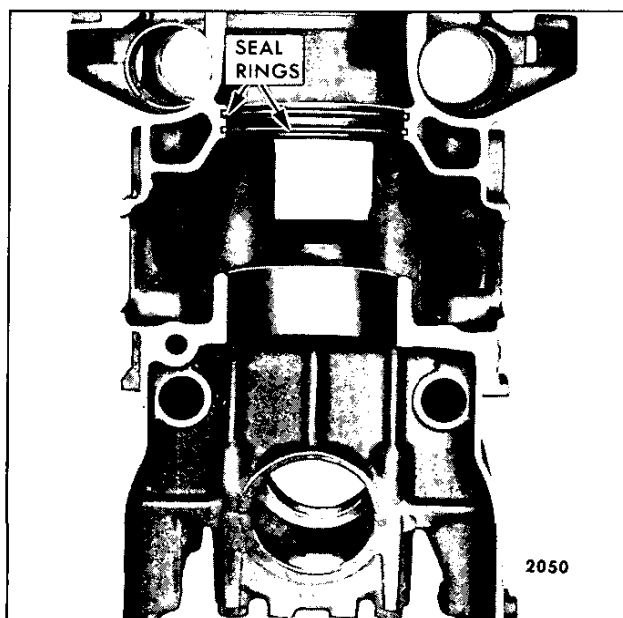

Fig. 12 - Location of Block Bore Seal Ring Groove
- a. Make sure the seal ring grooves (Fig. 12) are thoroughly clean. Then inspect the grooves and lands for evidence of pitting and erosion. If the grooves are eroded to the extent that sealing is affected, then the block must be replaced.